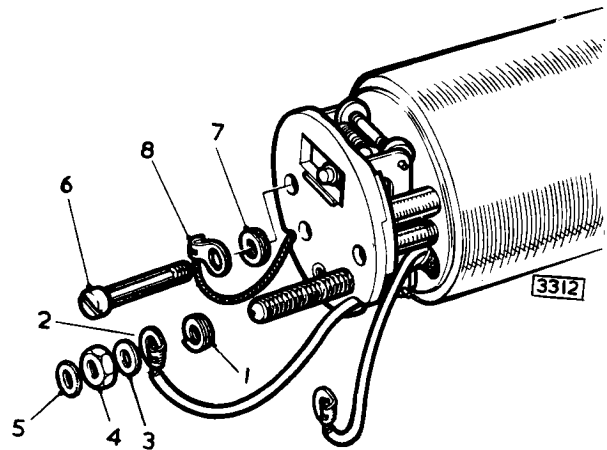

Fig. 16. Attaching the pedestal to the coil housing.
Assemble the 2 B.A. spring washer (1) (Fig. 16), and put the terminal stud through the 2 B.A. terminal tag (2), then fit the lead washer (3) and the coned nut with its coned face to the lead washer. (This makes better contact than an ordinary flat washer and nut). Tighten the 2 B.A. nut and finally add the end-cover seal washer (5).